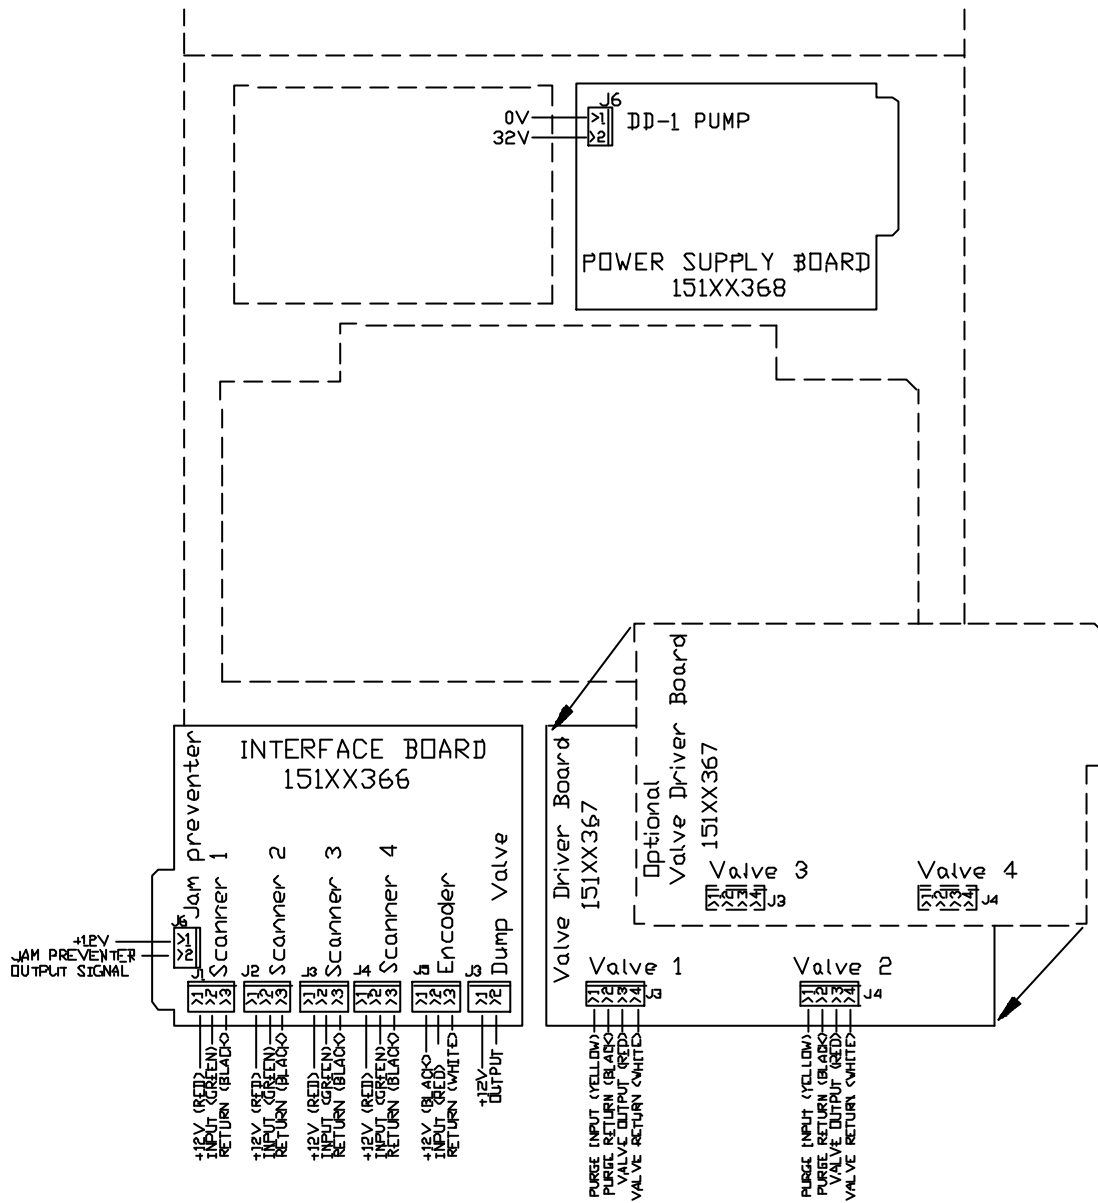

Figure 8. Internal Connections Diagram
Refer to Figure 8 for detailed layout of internal connections.
**Note!** Connections are as follows (see Figure 8 for wire colors):
**Note!** On a two-channel control, the “valve-1” connector must be used as the interface point for the glue valve controlled by channel 1. The “valve-2” connector must be used as the interface point for the glue valve controlled by channel 2 (Figure 8).